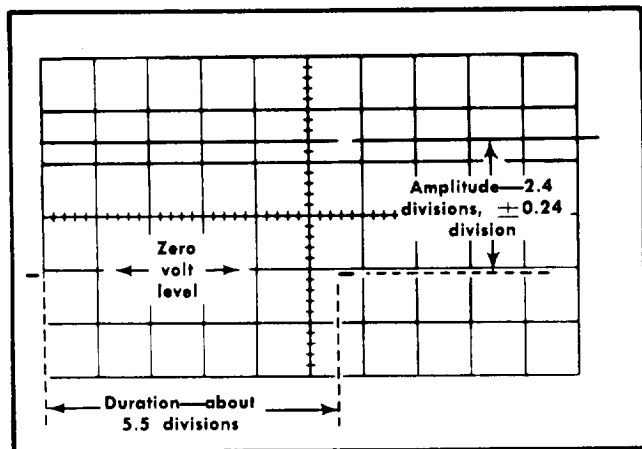

Fig. 6-63. Typical CRT display when checking gate amplitude and duration (vertical deflection, five volts/division; sweep rate, two milliseconds/division).
- d. CHECK-Test oscilloscope display for 2.4 divisions; ± 0.24 division, vertical deflection with the bottom of the waveform near the zero-volt level (12 volts, $\pm 10\%$; see Fig. 6-63). Gate duration should be about 5.5 divisions (about 11 times the A TIME/DIV switch setting).
c. CHECK-Test oscilloscope display for 2.4 divisions, ± 0.24 division, vertical deflection with the bottom of the waveform near the zero-volt level (12 volts $\pm 10\%$; see Fig. 6-63). Gate duration should be about 5.5 divisions (about 11 times the B TIME/DIV switch setting).